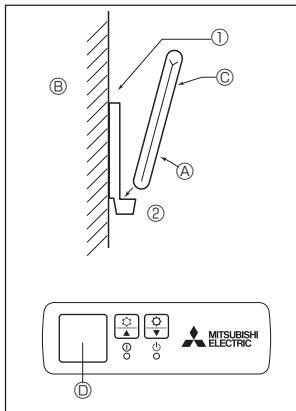
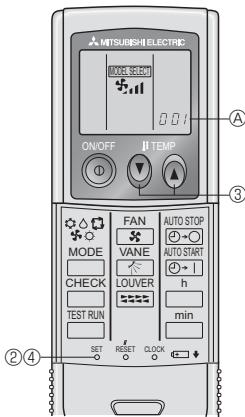

Fig. 6-5
Fig. 6-6
2) Installation method (Fig. 6-5)
- ① Attach the remote controller holder to the desired location using 2 tapping screws.
- ② Place the lower end of the controller into the holder.
3) Setting (Fig. 6-6)
- ① Insert batteries.
- ② Press the SET button with something sharp at the end. **MODEL SELECT** blinks and Model No. is lighted.
- ③ Press the temp Ⓛ Ⓜ buttons to set the Model No.